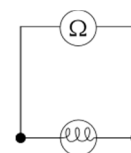

Figure 1: Measuring the resistance of a bulb.
- a. Before connecting the circuit to the power supply, connect the ohmmeter across the small bulb (refer to “Using a Digital Multimeter”, page 3, Example 1). Draw **Figure 1** in your journal, using the symbols used for a bulb and ohmmeter listed in **Table 1**.
- c. You also have a resistor and an LED on your bench. Connect the ohmmeter to each circuit element, one at a time, again drawing **Figure 1** with the appropriate circuit element symbol for each and record the measured resistance and meter setting for each.